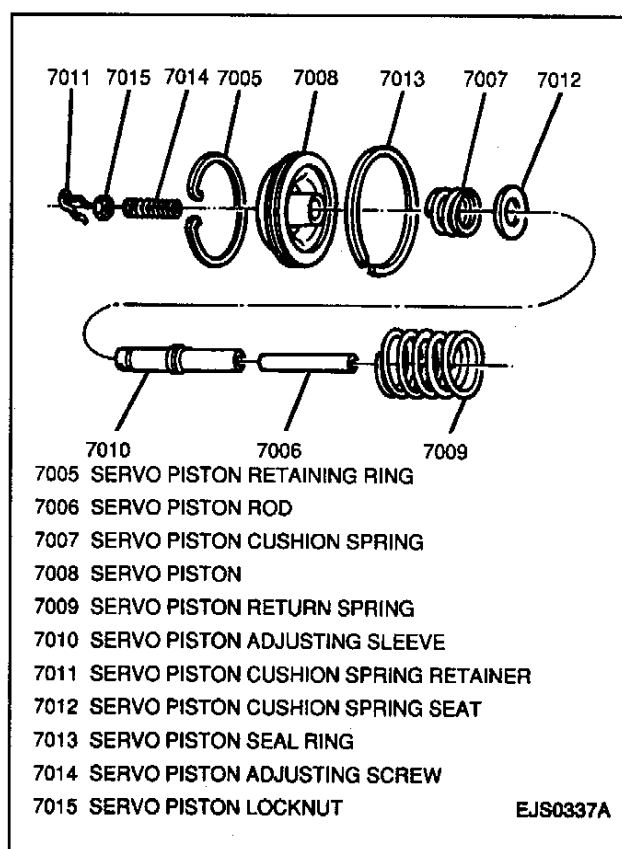

Figure 42—Disassembling Servo Piston (3L30, 3-Speed)
21. Servo piston from hydraulic press and servo piston adjusting sleeve, cushion spring seat, cushion spring and adjusting screw from servo piston (Figure 42).
2. Servo piston adjusting screw, cushion spring, cushion spring seat, and servo piston adjusting sleeve, cushion spring seat, cushion spring and adjusting screw onto servo piston (Figure 42).